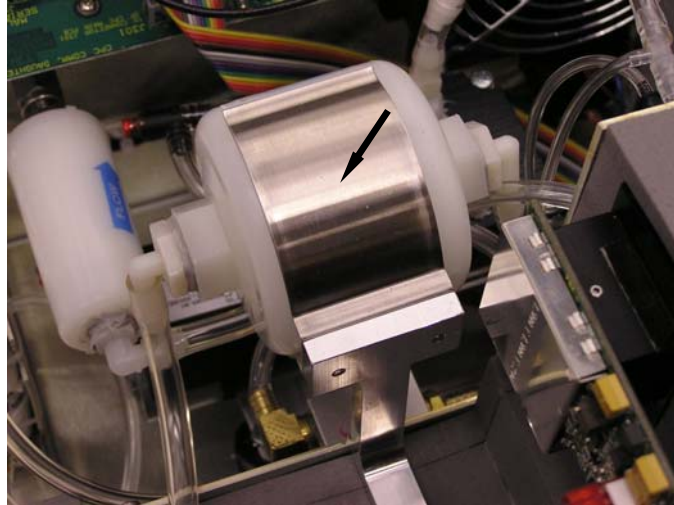

Figure 8-1
The high efficiency Sheath Filter collects particles from a large portion of the sample flow (nominally 250 cm³/min) before the flow combines with the remaining portion (nominally 50 cm³/min aerosol flow). The sheath filter cleans the sheath air used to confine the aerosol flow to the centerline of the condenser. The Sheath Flow filter is replaced at regular intervals depending on use. Six months to one year is recommended. The Sheath flow filter is shown in Figure 8-1.
4. Remove the tubing from the barbed fittings at both ends of the filter shown in Figure 8-1.